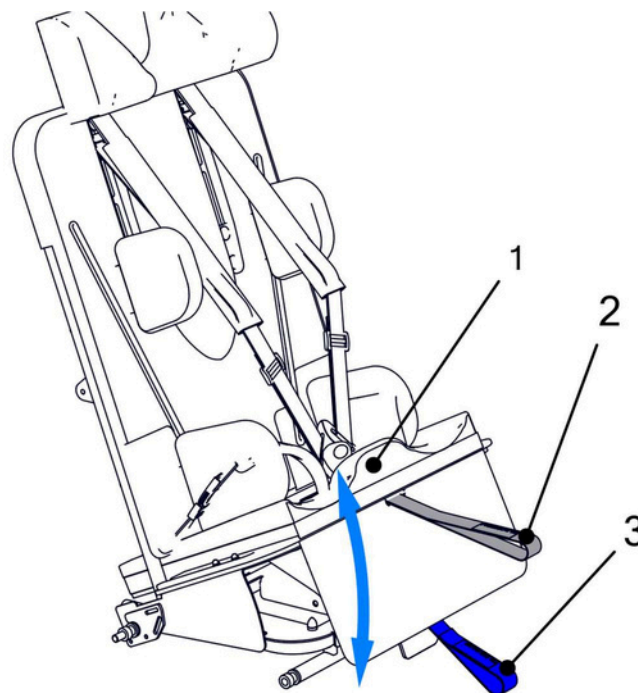

Fig. 14
The seat can be tilted to five angle positions. In order to tilt the seat (1) to a desirable position, pull up the grey stripe (2) "Tilt Lift" located under the front of the seat (Fig. 14). Every position will lock automatically. To put seat down release locking by pulling blue stripe (3) "Tilt Release" and by the grey stripe get the seat down. After releasing blue stripe the seat will lock in nearest position.